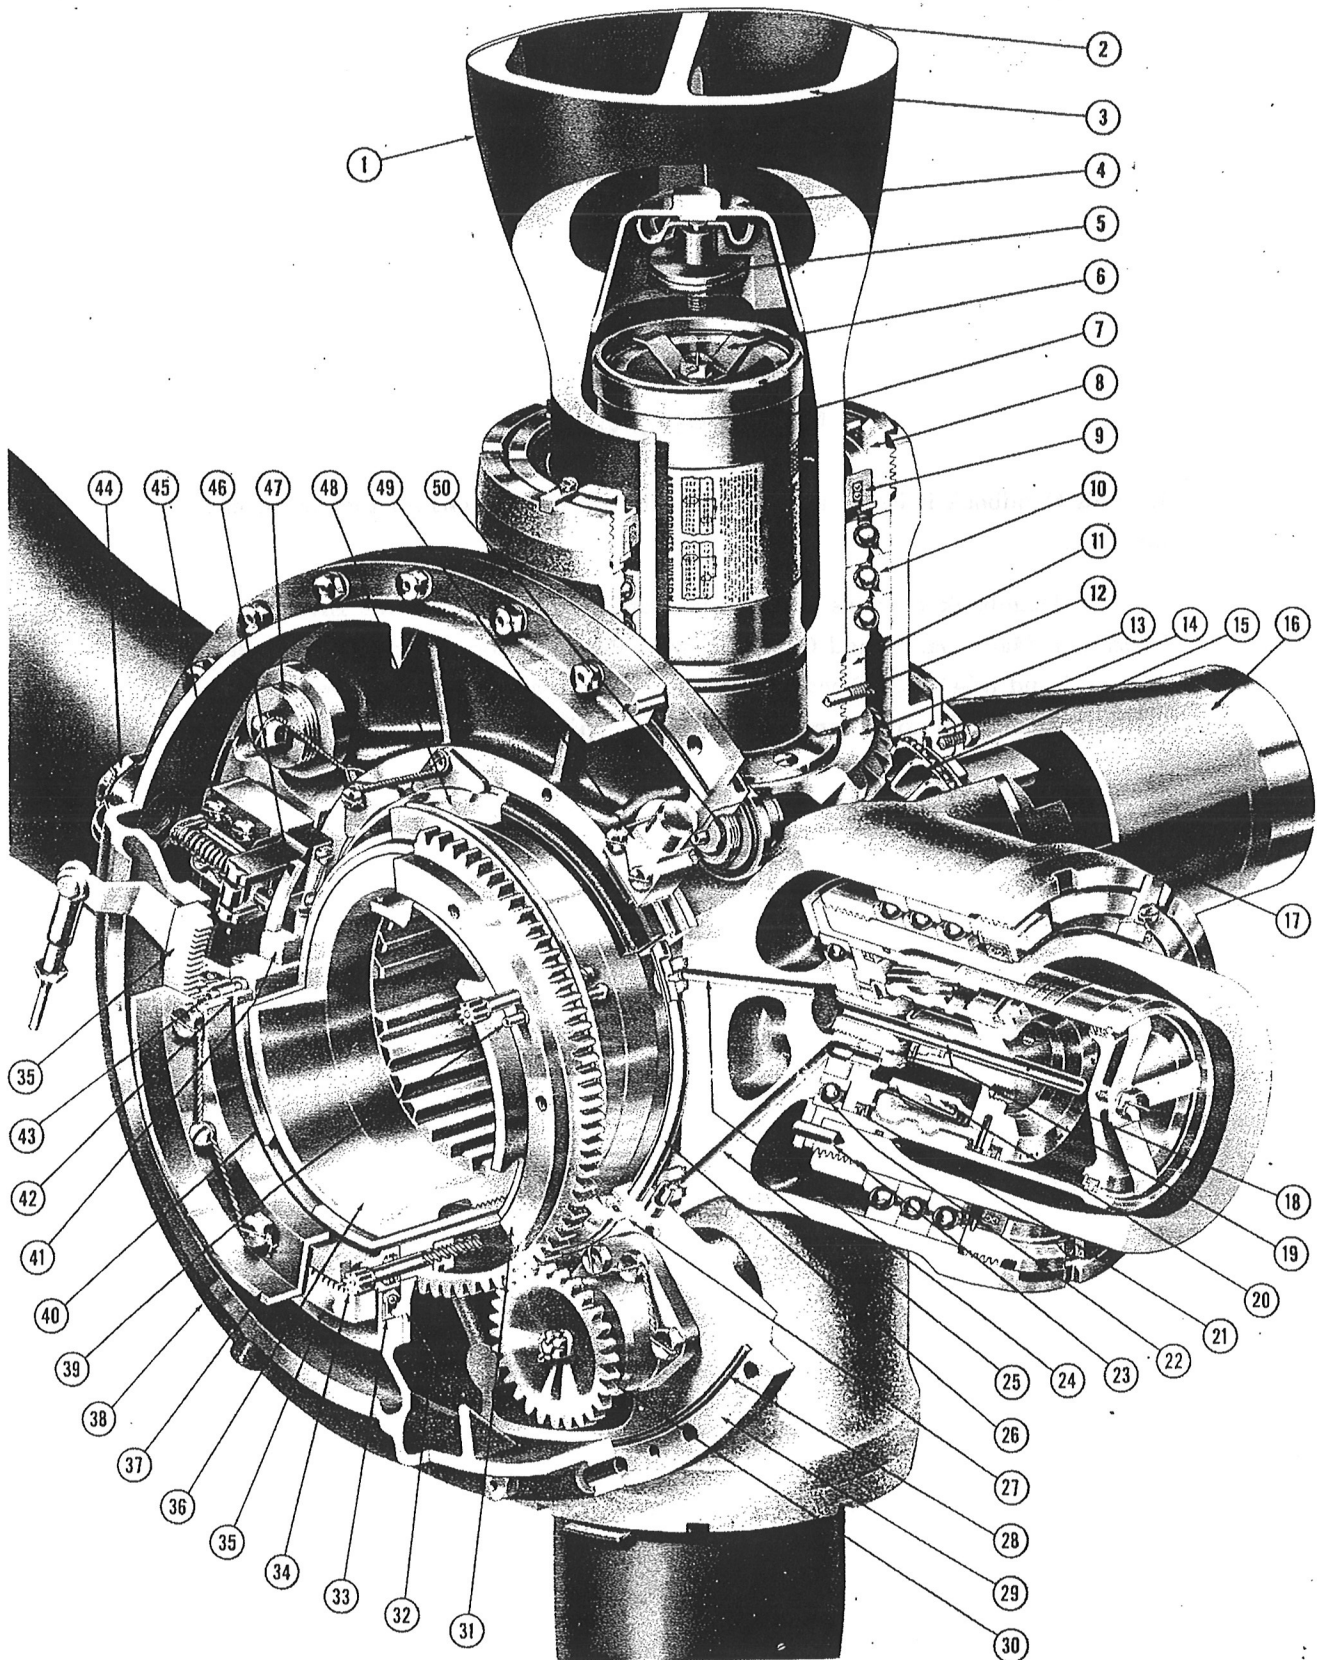

Figure 2—Propeller Cross Section
#### Key to Figure 2
(a) The blades are of hollow steel construction, incorporating a longitudinal strengthening rib. (See figures 2 and 5.) The blade is composed of two members, namely, the thrust member and the camber sheet which are brazed together. The thrust member is a machined steel forging which forms the thrust face, blade shank, longitudinal rib, and leading and trailing edge reinforcements. (See figure 2.) This member is completely ground and polished as is also the steel camber sheet which is formed, polished and attached to the thrust member by means of brazing.
(1) HUB.—The hub is a machined alloy steel forging. Torque units are mounted in each hub socket, and transfer passages permit the transfer of hydraulic fluid under pressure from the regulator to the torque units. The exterior surfaces of the hub are treated to provide a corrosion-resistant finish. Splines in the inner diameter of the hub on installation mate with the splines of the propeller shaft. At both ends of the splines in the hub, cone seats provide proper alignment of the propeller on the shaft.
(2) TORQUE UNITS.—A torque unit is incorporated in each hub socket. These units use hydraulic force to change blade angle. The torque units consist of a steel fixed spline, a bronze piston, and a steel torque cylinder. (See figure 2.) The fixed spline is attached to the hub by a fixed spline bolt which incorporates a tube that extends outward through the piston head, providing a fluid passage to the outboard side of the torque piston. An offset
(3) MASTER GEAR.—So that all blades will change angle to exactly the same degree, it is necessary to use a synchronizing device. Therefore, a master gear in the hub meshes with the blade gears that are doweled to the root of each blade. (See figure 2.) The blade gears and master gear function only as synchronizing units. No power is applied to the master gear.
(4) REAR AND FRONT CONES.—The cones are standard AN parts used to properly center the propeller on the shaft.
(5) SHAFT NUT.—The shaft nut retains the propeller on the shaft. A shoulder on the nut engages a groove in the front cone. An internal snap ring on the hub is located immediately forward of the front cone. Loosening the shaft nut moves the front cone against the snap ring, pulling the propeller forward on the shaft. Castellations have been machined in the front of the shaft nut to provide a means of tightening, while tangs have been located on the outer diameter to provide a means of locking the nut.
(6) SPINNER ADAPTER.—The spinner adapter is a steel tube which has a small diameter at the front end and a flange with a large diameter at the rear. Cap screws through the flange secure the adapter to the propeller hub. Slots in the rear diameter engage tangs on the shaft nut, locking the nut. The spinner adapter performs the three-fold function of: (a) locking the shaft
(9) RELIEF VALVE ASSEMBLY.—A relief valve assembly (see figure 2) installed in the stationary control mechanism is designed to relieve any excess air pressure built up in the regulator at low rpm, before the spring loaded seals have begun to lift off. This valve should not be removed unless replacement is necessary because of damage.
(10) REGULATOR BALANCE.—The rotating section of the regulator is statically balanced. Balance weight bosses are provided in the regulator housing, on which weight may be added to achieve balance.
(11) BEARINGS AND SEALS.—Propeller rotation forces the hydraulic fluid away from the center of the regulator. Seals are provided between the stationary